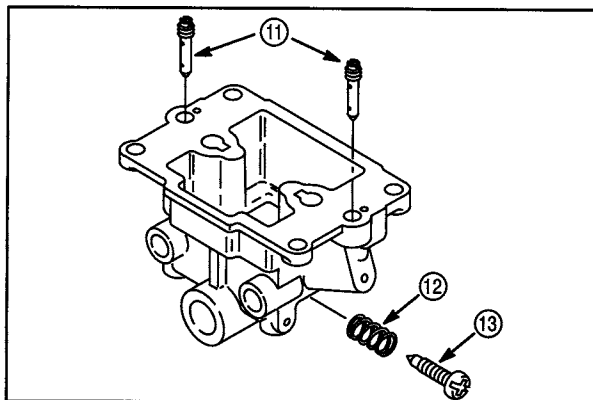

Fig. 63
5. Remove pilot jets (11), Fig. 63.
6. Remove float bowl drain screw (13) and spring (12).